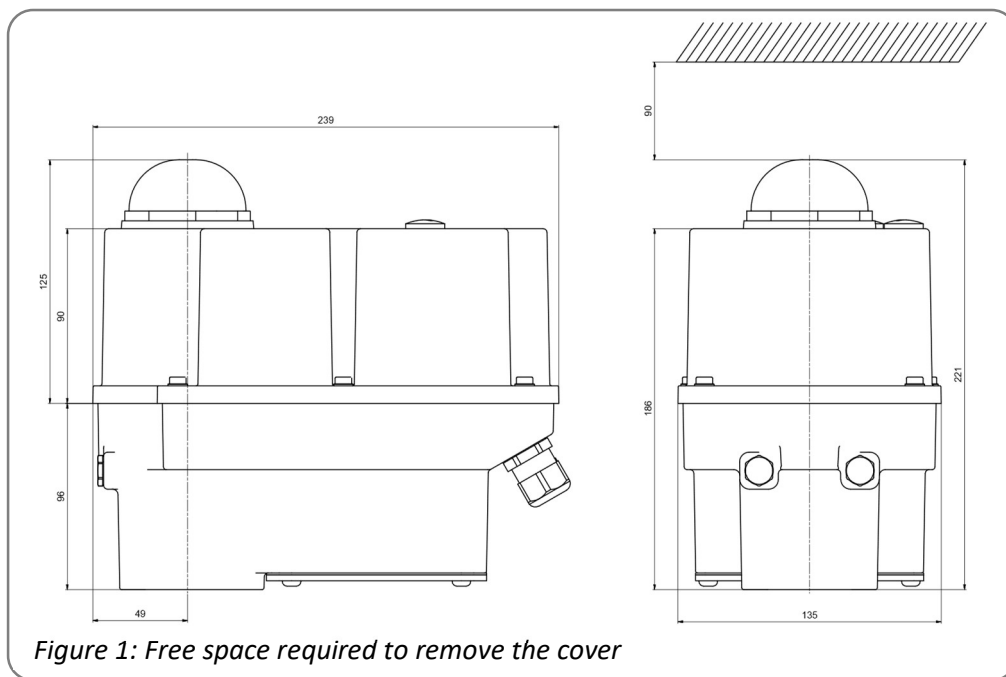

Figure 1: Free space required to remove the cover
- The actuators must be installed with sufficient clearance to remove the cover (Figure 1).